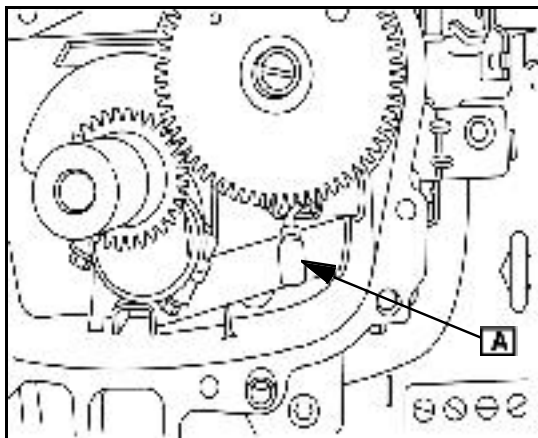
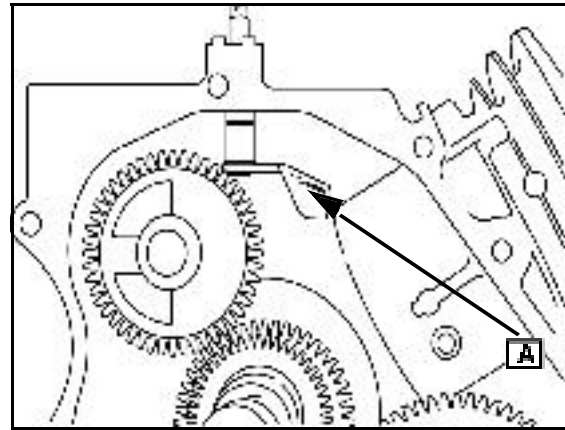
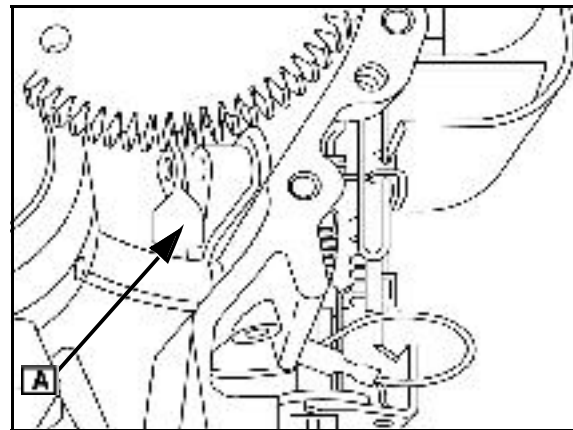

Fig. 26
Fig. 27
Fig. 28
2. Slide governor crank ([A] Fig. 26) up through the bushing and position as shown in the appropriate illustration.
**CAUTION:** Ensure that governor crank is in the position illustrated. (Fig. 26) (Fig. 27) and (Fig. 28) If it is not, proper governor adjustments cannot be made and will result in over-speeding and engine damage.